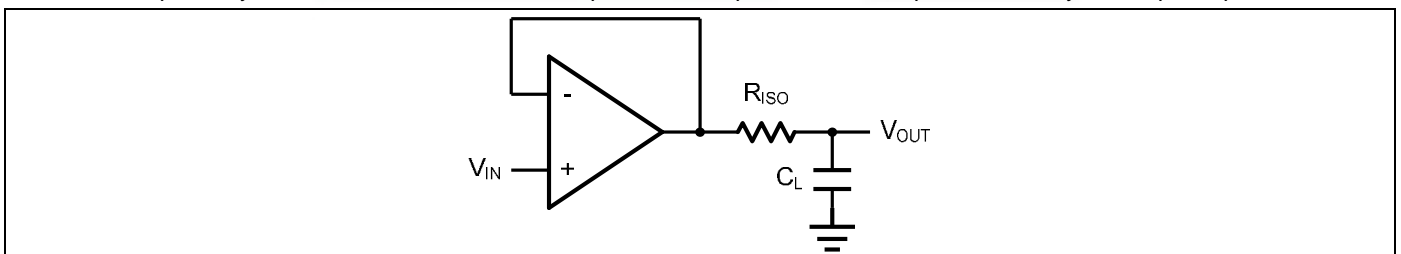
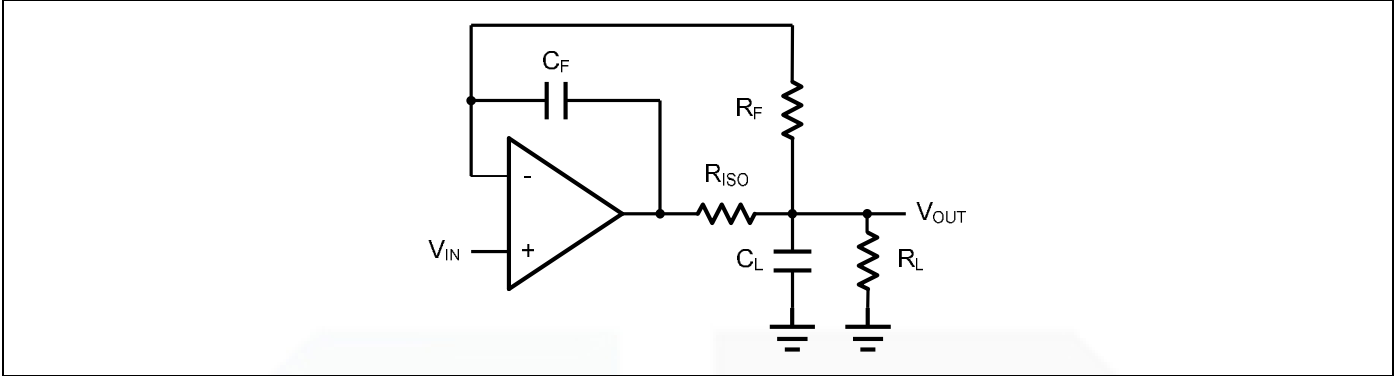

Figure 2. Indirectly Driving a Capacitive Load Using Isolation Resistor
Figure 3. Indirectly Driving a Capacitive Load with DC Accuracy
The GS8600 family is optimized for bandwidth and speed, not for driving capacitive loads. Output capacitance will create a pole in the amplifier's feedback path, leading to excessive peaking and potential oscillation. If dealing with load capacitance is a requirement of the application, the two strategies to consider are (1) using a small resistor in series with the amplifier's output and the load capacitance and (2) reducing the bandwidth of the amplifier's feedback loop by increasing the overall noise gain. Figure 2. shows a unity gain follower using the series resistor strategy. The resistor isolates the output from the capacitance and, more importantly, creates a zero in the feedback path that compensates for the pole created by the output capacitance.
The circuit in Figure 3 is an improvement to the one in Figure 2. R_{F} provides the DC accuracy by feed-forward the V_{IN} to R_{L} . C_{F}